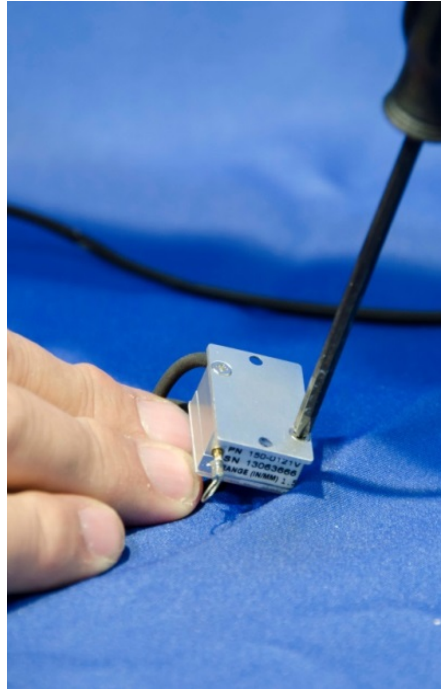

Figure 11-11. Install mount plate to string pot assembly
11.2.2.7 Install the String Pot (SA572-S90-L) to the Mount Plate (472-5305) using two #2-56 x 1/8" phillips head FHCS as shown in Figure 11-11.